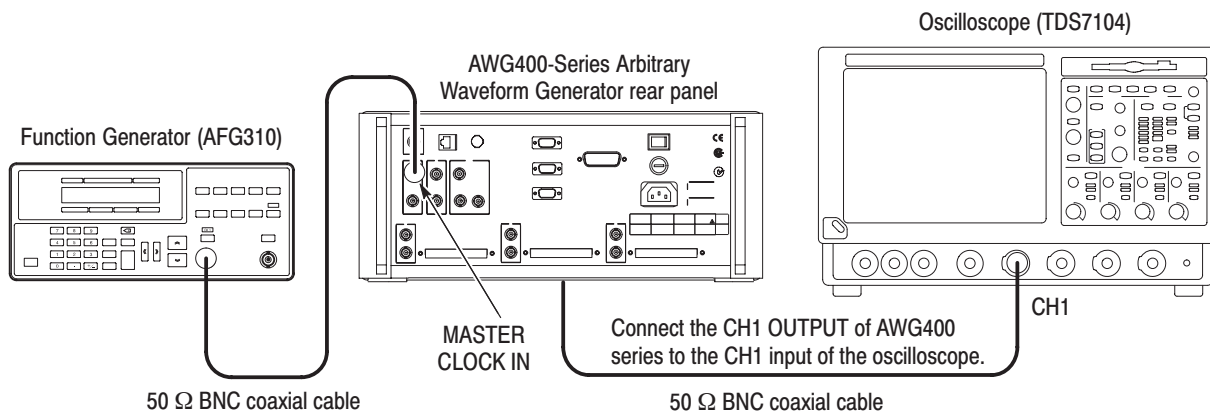

Figure 4–38: Master Clock input initial test hookup
- b. Use a 50 Ω BNC coaxial cable to connect the AWG400-Series MASTER CLOCK IN connector to the function generator (AFG310) output connector (see Figure 4–38).